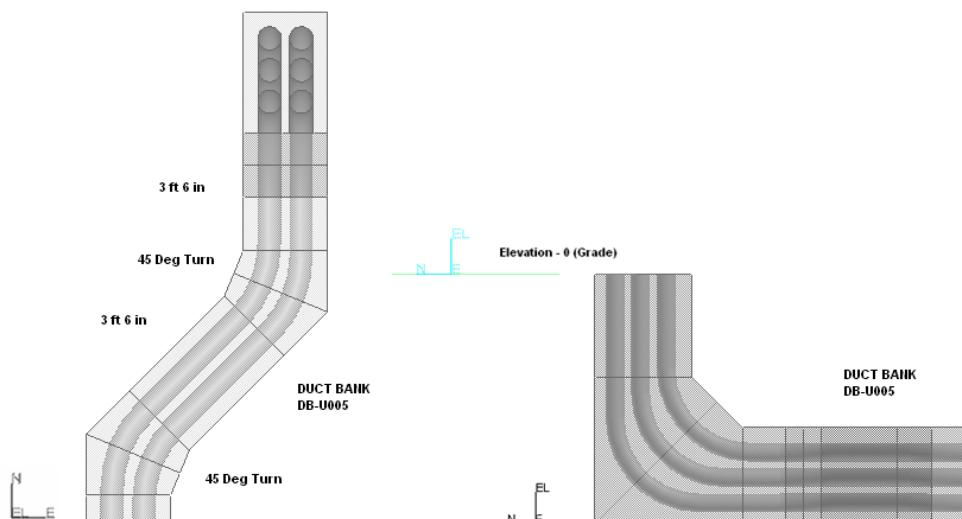

Figure 78: Routed Duct Bank DB005
77. Position the cursor in the North-East direction and click in the active view to accept the placement of the duct bank as shown in the Figure 78.
78. Position the cursor in the North direction and click in the active view to accept the placement of the duct bank as shown in the Figure 78.